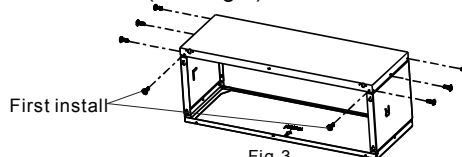

Fig.3
- Install the BOTTOM COVER with the LEFT COVER and RIGHT COVER together by using 8 short screws as shown below.(See Fig.3)